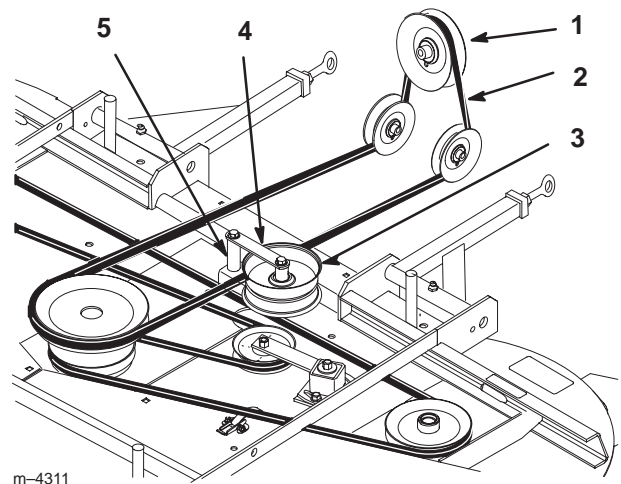

Figure 63
3. Remove PTO drive belt from clutch, around rear idler pulleys and off of mower top center pulley (Fig. 63).
4. Remove bolt, nut, washer and spacer from idler pulley bracket assembly. Remove belt from bracket assembly (Fig. 63).
6. Install belt into idler pulley bracket assembly. Install bolt, nut, washer and spacer into assembly (Fig. 63).